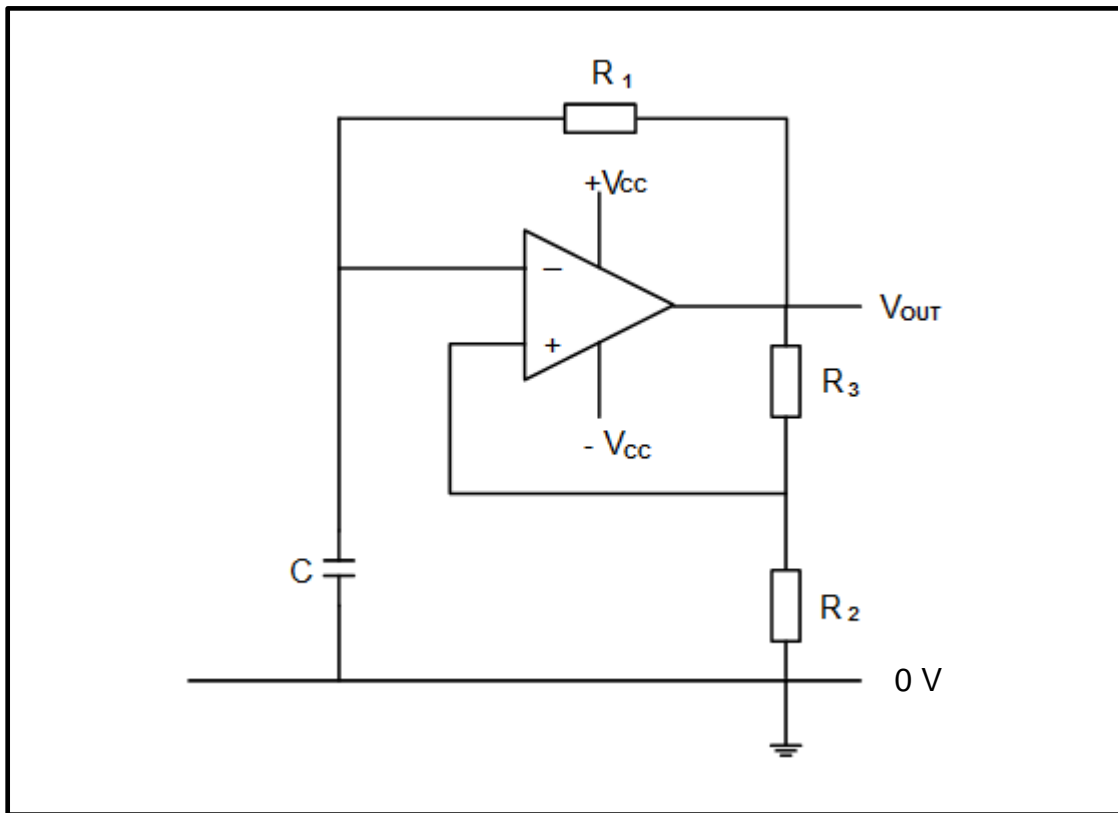

FIGURE 7.5: ASTABLE MULTIVIBRATOR
- 7.5 Refer to the astable multivibrator circuit diagram in FIGURE 7.5 below and answer the questions that follow.